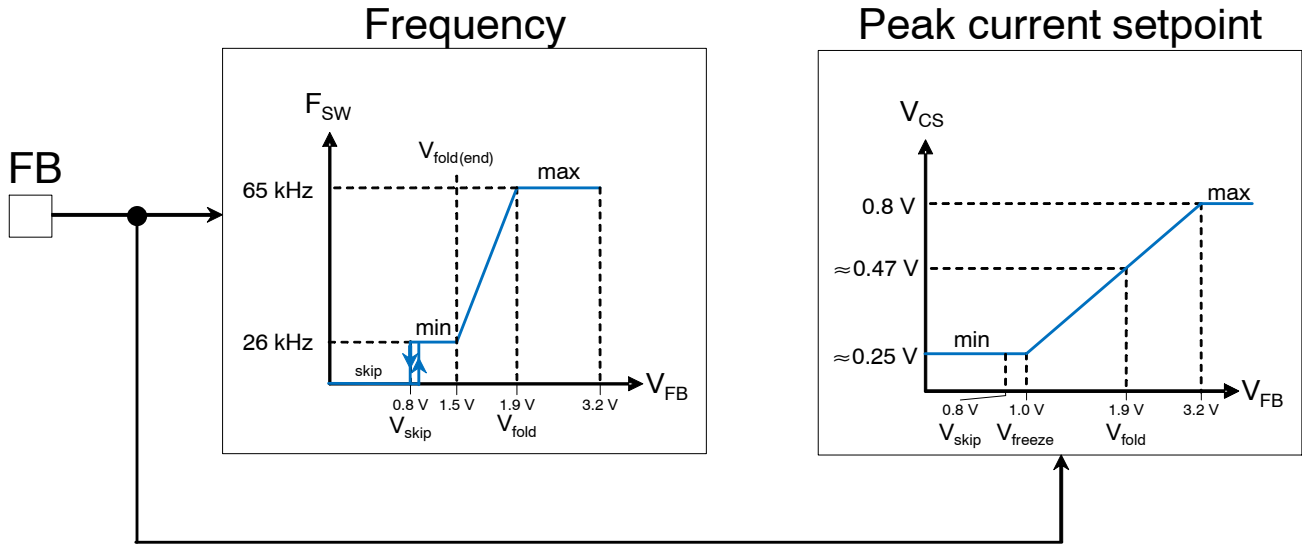

Figure 43. By Observing the Voltage on the Feedback Pin, the Controller Reduces its Switching Frequency for an Improved Performance at Light Load
1.5 V, the frequency is fixed and cannot go further down. The peak current setpoint is free to follow the feedback voltage from 3.2 V (full power) down to 1 V. At 1 V, as both frequency and peak current are frozen (250 mV or $\approx 31\%$ of the maximum 0.8-V setpoint) the only way to further reduce the transmitted power is to enter skip cycle. This is what happens when the feedback voltage drops below 0.8 V typically. Figure 43 depicts the adopted scheme for the part.